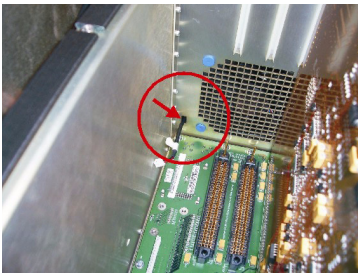

Figure 7 Route cable through opening
5. Lead the Harness through opening on the Card Cage and connect the Harness to P4 connection on the motherboard (Figure 7).